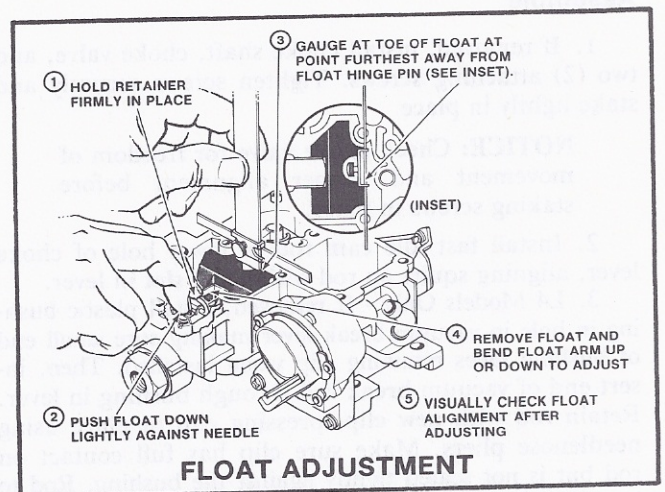

FIGURE 40
14. Float Level Adjustment (Figure 40).
b. Using adjustable "T" scale, measure from top of float bowl casting surface (air horn gasket removed) to top of float at toe, gauging point 3/16" back from end of float at toe. (See inset, Float Adjustment Figure 40.)